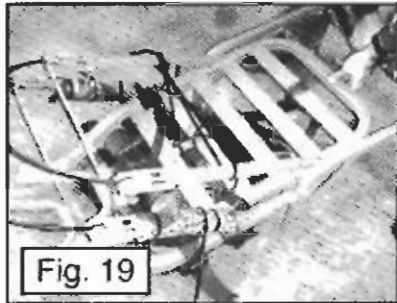

Fig. 19
B. Take the Python XLS or Revolution Platform (in the same orientation as it would be on a tree) and keeping it flat slide the Python XLS or Revolution Platform so that its upright braces and cable goes under the Python XLS or Revolution Seat side braces and cable as shown in **Figure 19**.